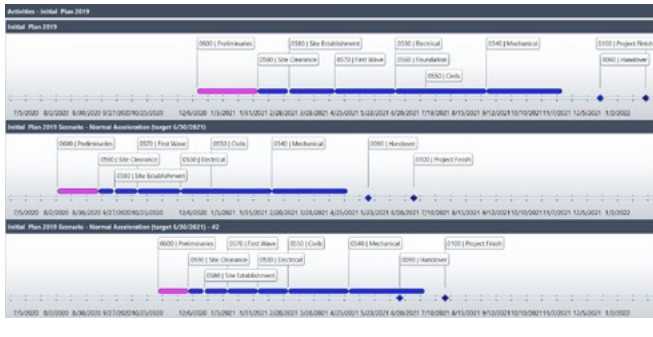

Figure 1-1: Two accelerated scenarios
3. **Generating the scenario:** A simulation consists of hundreds or thousands of CPM analysis runs, and each iteration applies one or more criteria. With each iteration, the schedule accelerates incrementally until the goal is reached (or not, if the goal is too aggressive using your criteria). The resulting scenario, as depicted in Figure 1-1, can be used as decision support in tactical and strategic discussions about acceleration. Your scenario will answer such questions as how to support a three-month acceleration and whether to incentivize a contractor to meet a stretch goal.